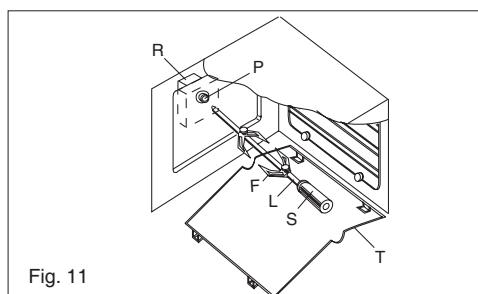

Fig. 11
50 ÷ 200	<p>Total grill heating element  or (turnpit motor according to the models, see Fig.11). It is indicated for cooking on the spit, grilling and gratinating.</p>
50 ÷ 200	<p>Total grill heating element or (turnspit motor according to the models, see Fig.11).</p> <p>It is indicated for cooking on the spit, grilling and gratinating.</p>
- Fit the end of the spit into the motor M at the back of the oven (fig.11).